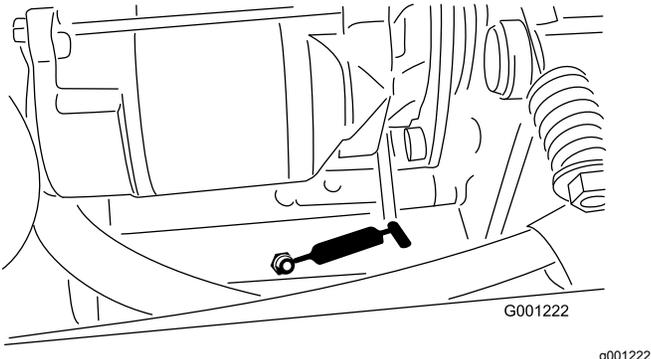

Figure 40
- PTO tension pivot (Figure 40)
- Rear PTO bearing (Figure 40)